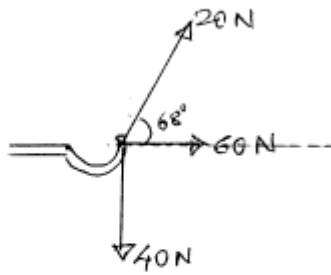

Fig. 1. Q.1.(b)
- (b) 3 wires exert forces on a hook as shown in Fig.1. Find out the force that will be exerted by a single wire that can replace all the 3 wires. **07**